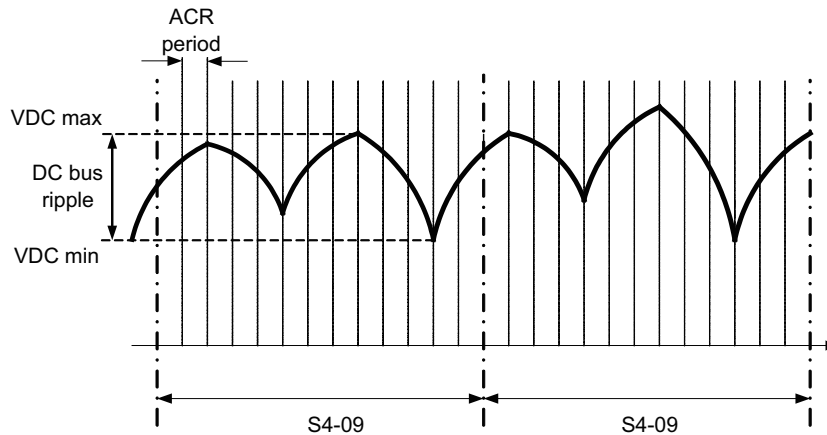

Figure 5.92 One Phase Loss Detection
- The 1 phase loss of the power supply is detected by measuring the ripple of the DC bus voltage. The detection is tuned with parameters S4-08 (KEB 1 phase loss detection level), S4-09 (KEB 1 phase loss sampling time) and S4-10 (KEB 1 Phase Loss Detection Intervals), see Figure 5.92 for details.